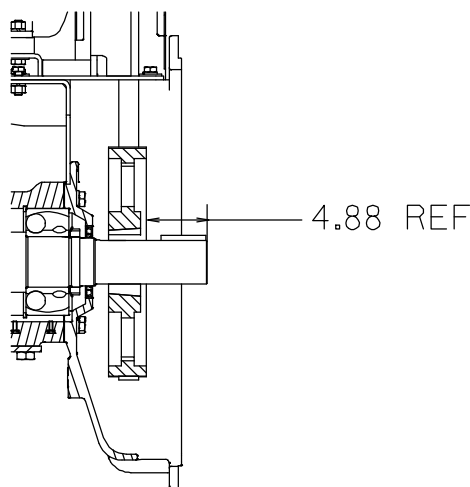

Figure 11. Drive Sprocket Positioning
Install the shaft key (26) in the shaft keyway. Slide the bushing and sprocket (18 and 19) onto the shaft to the dimension shown in Figure 11. Install the bushing setscrews and tighten the setscrews in an alternating sequence to secure the sprocket to the shaft. Torque the setscrews to 66.7 ft. lbs. (800 in. lbs. or 9,2 m. kg.).